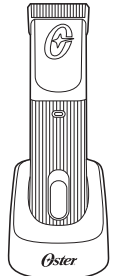

Figure 1
3. Ensure that the switch on the unit is in the «OFF» (0) position.
5. Insert the clipper into the charging stand so that the top of unit is facing you and the contacts on the clipper are aligned with the contacts on the charging stand. The top of the unit is the side with the switch (Figure 1).